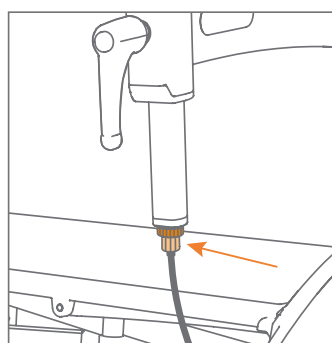

Figure 77: Brake adjustment via the adjustment screw, just below the locking ring.
- b. First loosen the locking ring (pull the cable down to make it easier). This gives you room to adjust the screw below it (**Figure 77**).